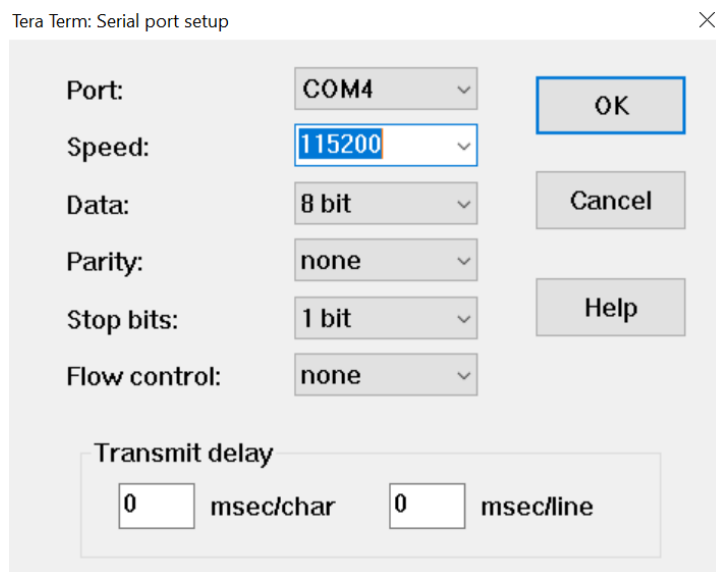

Figure 15 Tera Term Serial Port Setup
8. Open Tera Term and configure the settings as depicted in Figure 15.